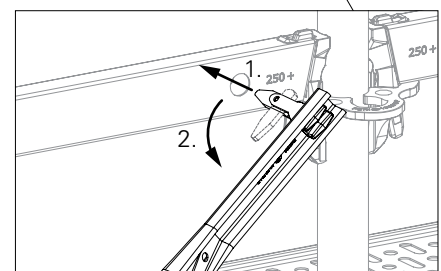

Fig. A1.07e
2. Insert the gravity pin into the holes of the top Ledger UH (3), turn pin to secure. (Fig. A1.07e + A1.07f)